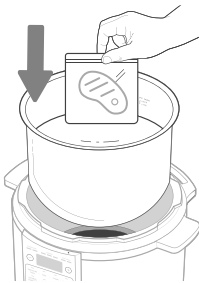

Figure 8.3
9. When the progress bar shows **COOKING** stage, remove the lid and carefully submerge the food in the inner pot. [Figure 8.3]